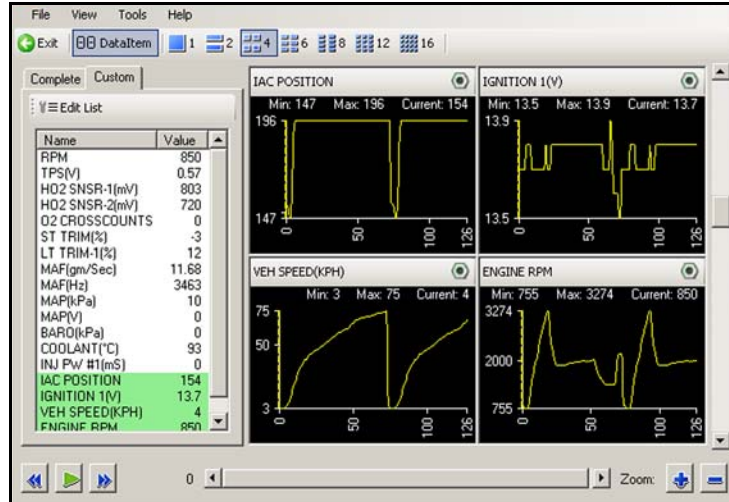

Figure 4-11 Sample changed screen view
- The new selection displays (Figure 4-11).